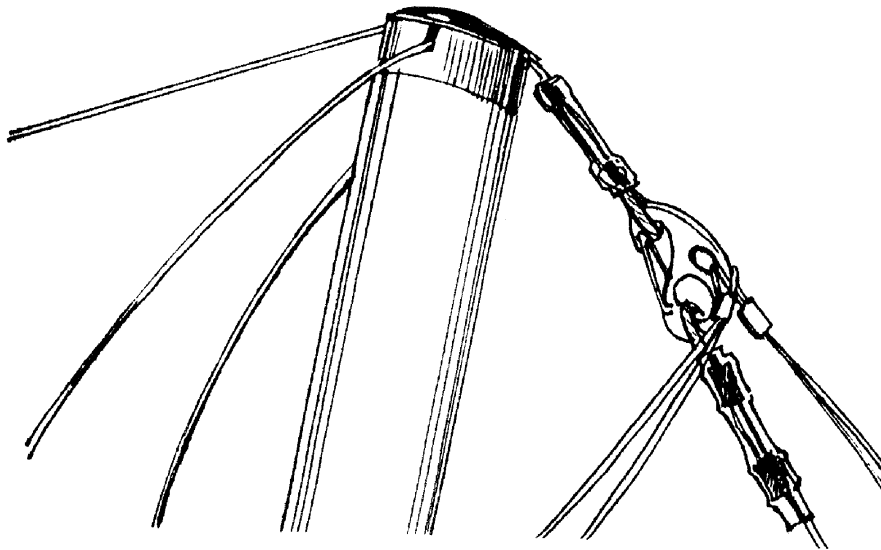

Fig.18
2.1.20. Attach the hook of the top rear wire and the luff lines to the thimble of the top front wire (Fig.18) and spread out wires, attached to the hook, properly.